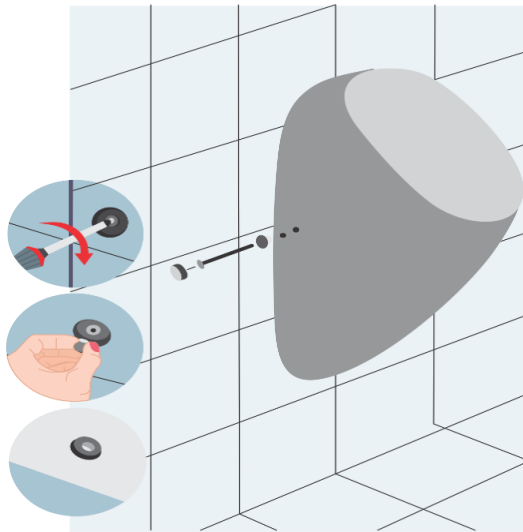

Fig. 1.27: Fitting of mounting screws and tightening into L shaped brackets
8. Urinal mounting screws are fitted using plastic sleeves. It is provided and tightened into L shape brackets (Refer Fig. 1.27).